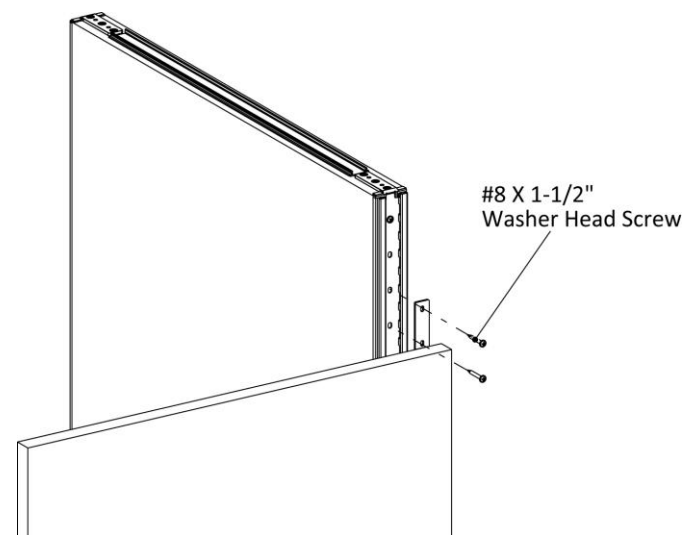

Figure 2
- 5. Drive two #8 x 1-1/2" Washer Head Screws through the holes in the gallery panel intermediate bracket into the standard panel, (Figure 2).